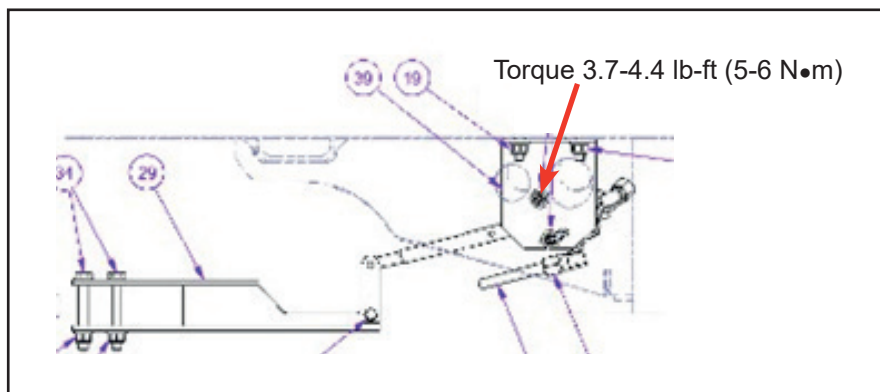

Figure 15 - Tightening the bolts
- 1.30. Re-measure the front left and front right air bag heights using the jig. Once the front right and front left plate x plate measurements are within specification, tighten the 2x bolts on the front leveling valve and torque to 3.7-4.4 lb ft (5-6 N•m) using a torque wrench and 11mm socket. Apply torque seal (See Figure 15).